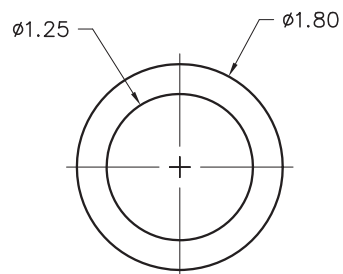

Fig. 12-7
3. Draw the front view of a pipe shown in Fig. 12-7. Use a grid of 2 and turn snap off.